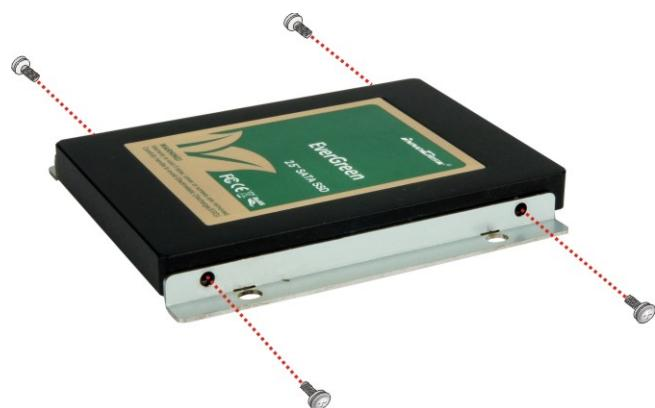

Figure 3-9: HDD Retention Screws
Step 3: Attach the HDD brackets to the HDD. To do this, align the two retention screw holes in the side of an HDD bracket with the retention screw holes on one side of the HDD. Insert two retention screws into the HDD bracket to secure it. Follow the same procedure to secure the other HDD bracket to the HDD (**Figure 3-9**).